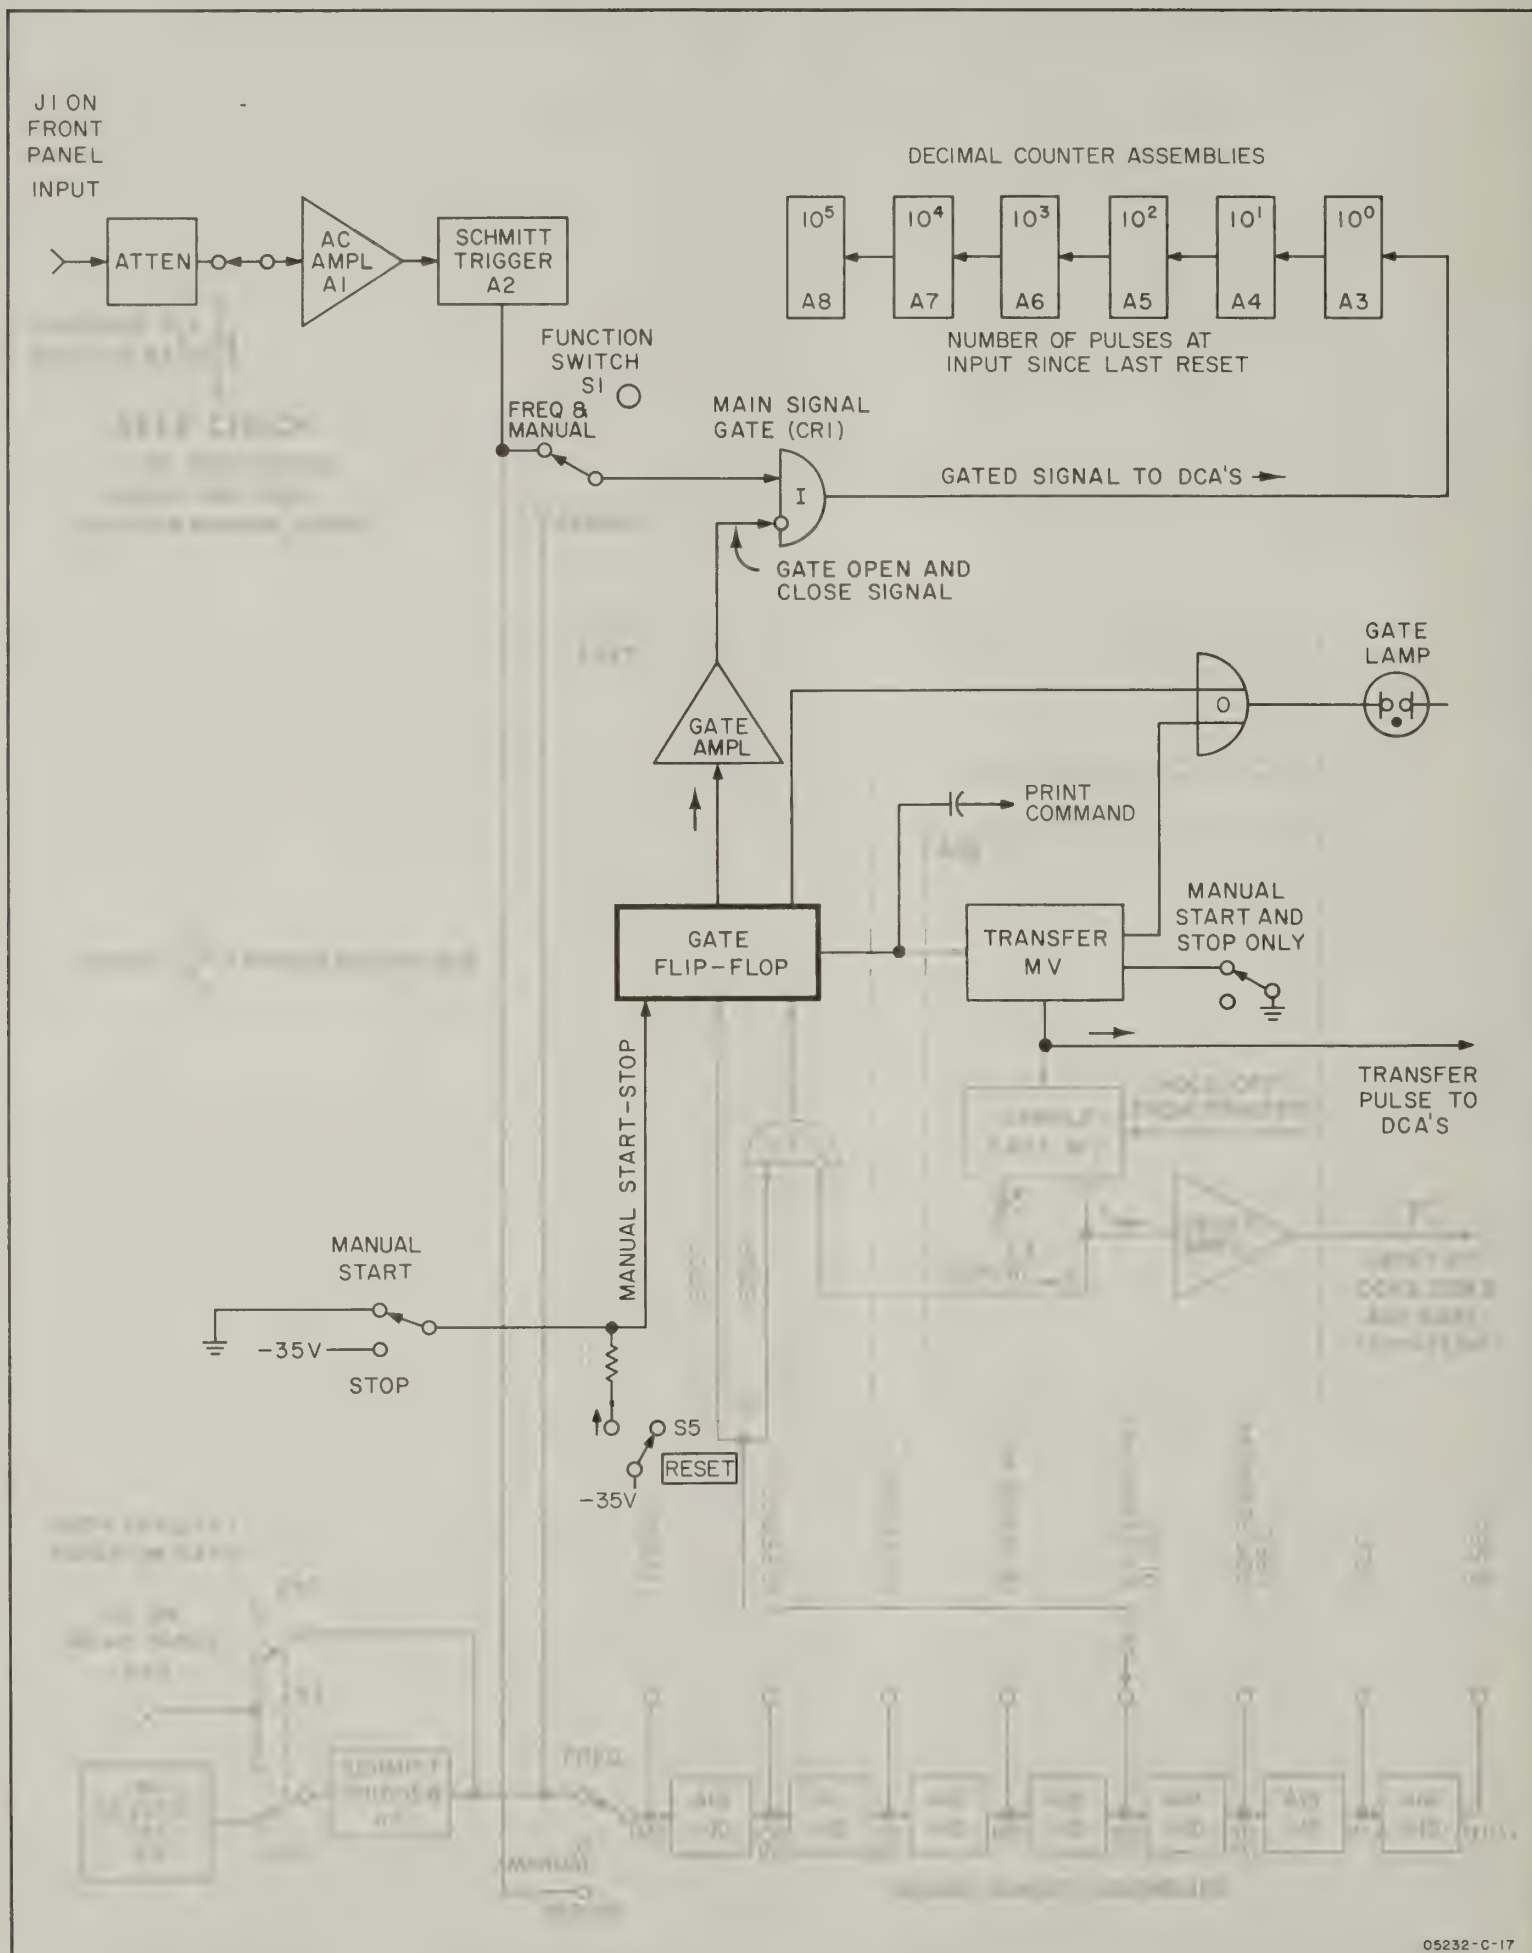

Figure 4-10. Basic Totalizing Counter
a. The basic counter circuits are arranged to provide several functional modes of operation. Each arrangement includes a main gate with 1) a signal input and 2) a control input, or gating signal. Following the main gate is a cascaded series of decimal counters which accumulate and display the total number of pulses which pass through the main gate. The various modes of operation are discussed in Figures 4-10 to 4-15.
4-36. TOTALIZING. In the totalizing mode (figure 4-10), the gate flip-flop is triggered by the MANUAL START-STOP switch. The decimal counter assemblies cascade-count the total number of input pulses applied while the main gate is held open manually.